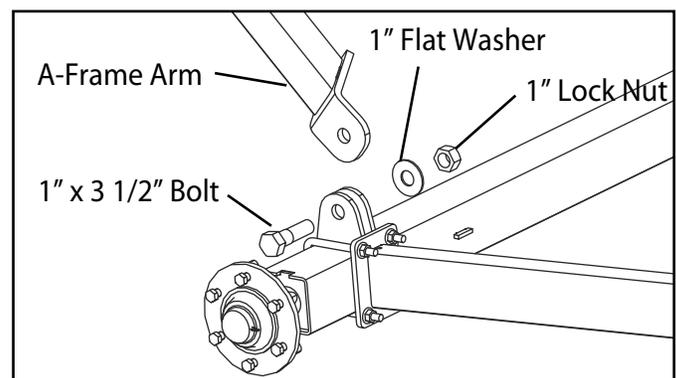

**FIG. 3-18. Axle Frame Assembly**
35. Attach the Axle Arms to the Axle using two 1/2" x 4" U-Bolts and lock nuts. Make sure there is one U-Bolt on either side of the A-Frame Mount Lugs. See Fig. 3-18.